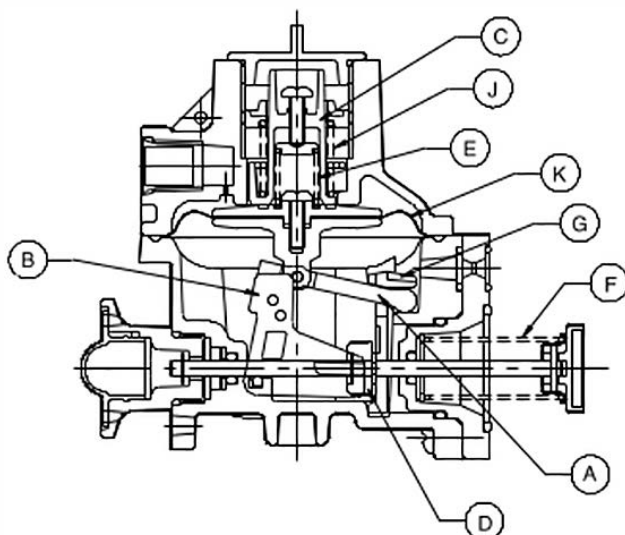

Figure 2 - Overpressure shut-off activated
When the outlet pressure increases above about 90% of the overpressure set by the overpressure (opss) spring (J). The diaphragm (K) begins to move upwards against the opss spring and its holder (C). The underpressure (upss) spring (E) is inactive now. The moving diaphragm pulls the lever (A) upwards with it across the face of the latch (B). The lever is pivoted at its end, held by the lever retaining plate (G). If the outlet pressure reaches the trip pressure, the lever is pulled off the latch. The latch pivots under the action of the force provided by the valve actuating spring (F). This allows the tripoff bushing (D) on the spindle to disengage from the latch allowing the spindle to move and the valve to close onto the orifice (see figure 2).